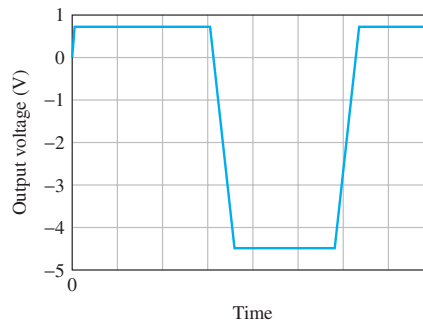

FIGURE P8.22 Zener diode output for Problem 8.22.
- 8.22 (B) Figure P8.22 shows the output of a Zener diode. From the plot, what information about the Zener diode can be obtained?